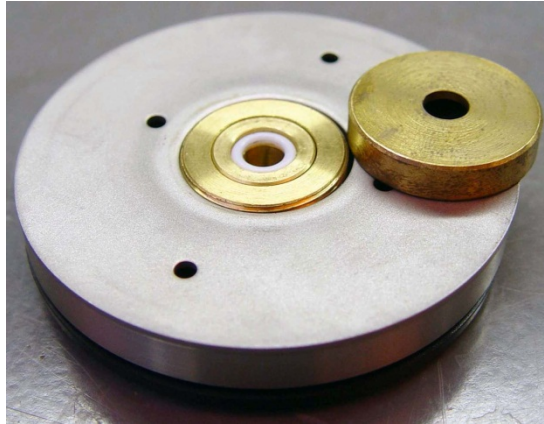

Figure 3-3 Diaphragm Hub Assembly (Hub and O-rings inserted)
1. Insert the hub and O-rings into the diaphragm hub assembly (Figure 3-3).